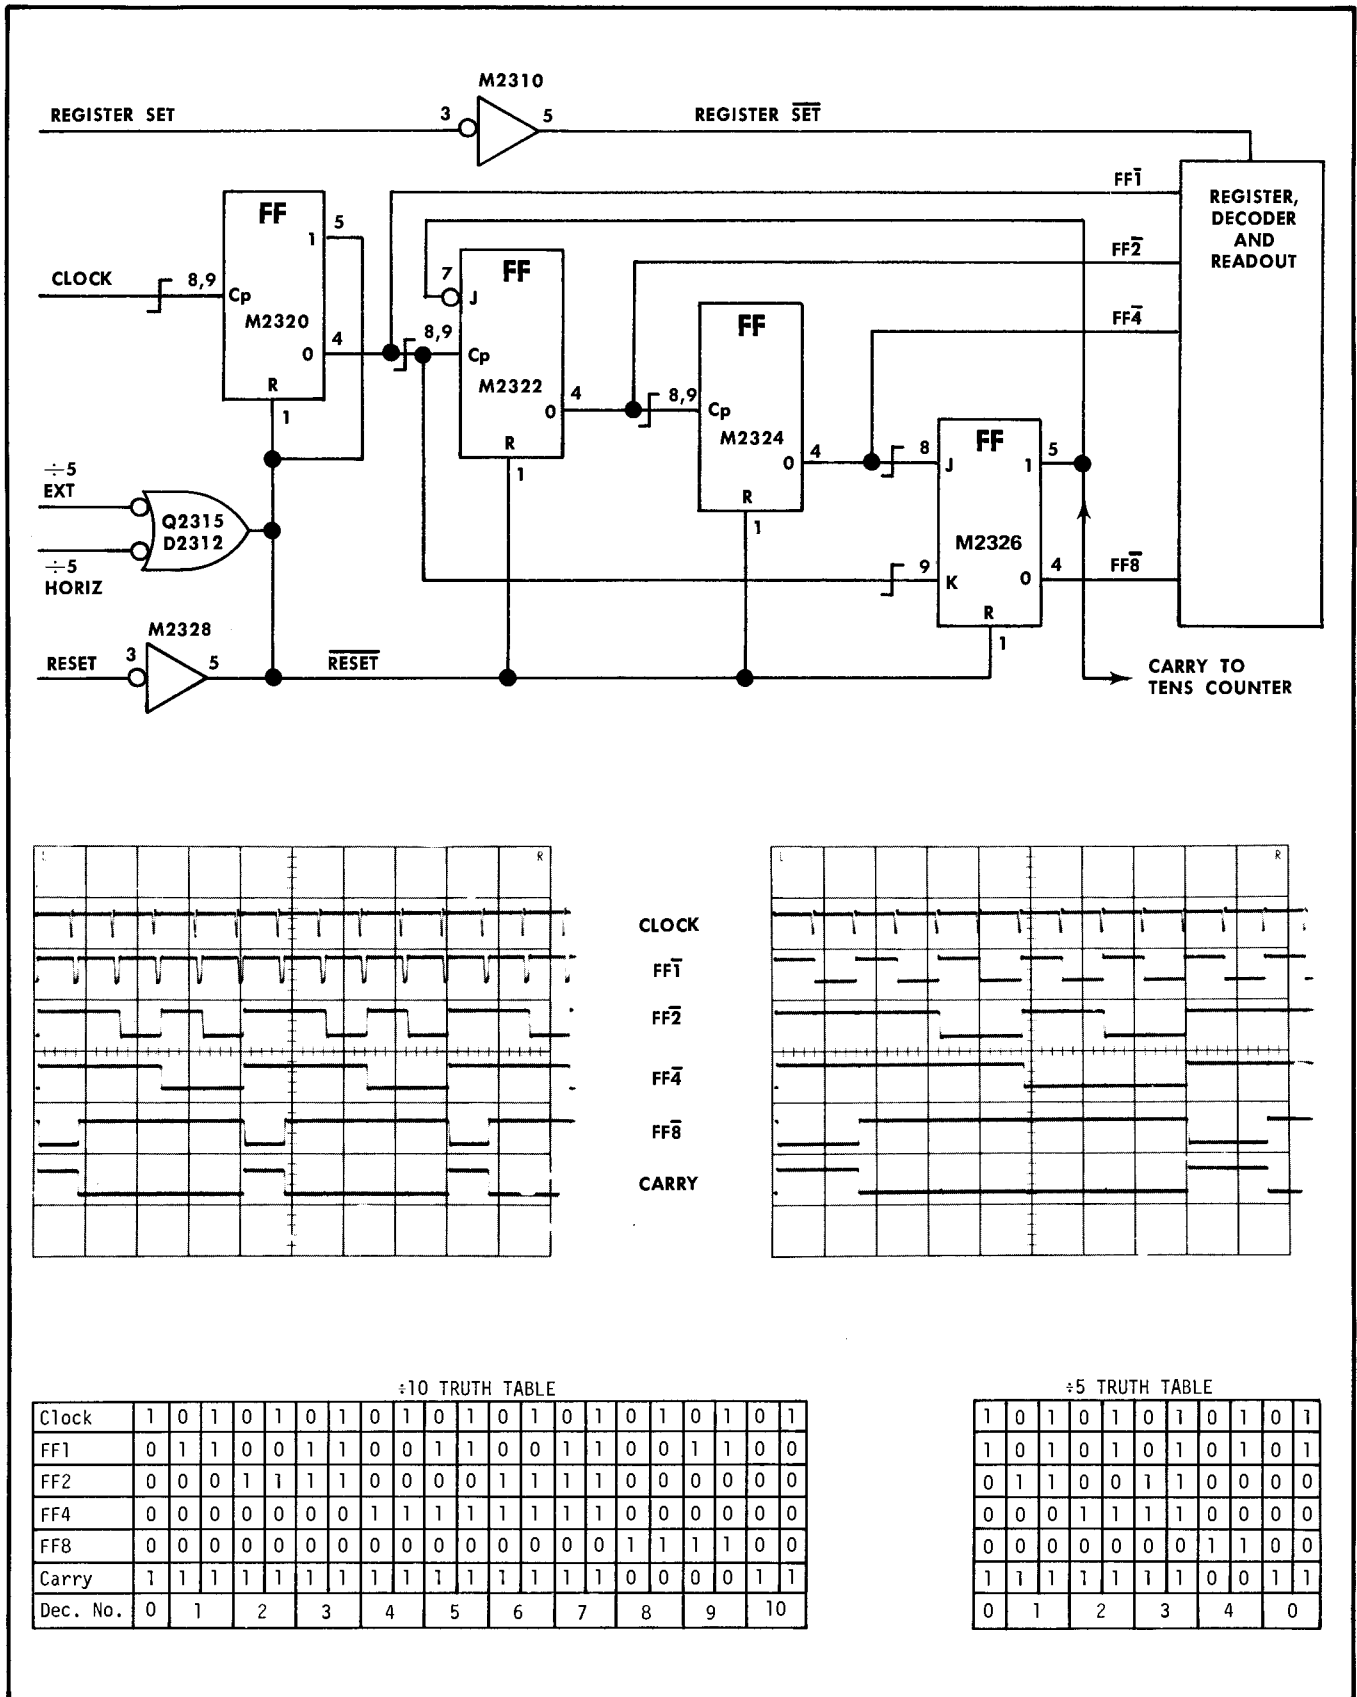

Fig. 4-38. One's Counter.
**Ones Counter.** The Ones Counter (see Fig. 4-38) is made up of four flipflops (M2320, M2322, M2324, and M2326), the first three of which normally operate as "T" flipflops. The ones counter is basically a binary ripple-through BCD counter. The flipflops switch on the positive-going edge of the CLOCK pulse input. The RESET pulse, applied between measurements, resets all the counters to zero prior to the start of a count.
With the flipflops reset to zero, the first CLOCK pulse applied to the Cp input of M2320 sets the flipflop to 1 (the output on pin 4 goes low). The output on pin 4 is applied to the pins 8 and 9 of M2322 (Cp) and to pin 9 (K) of M2326. Since the flipflops switch only on the positive-going transition of a pulse, M2322 and M2326 do not reset. The count in the ones counter is now 0-0-0-1. (See the truth table in Fig. 4-38).